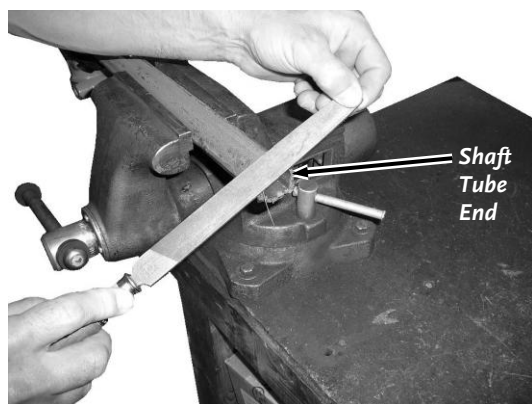

Figure 17
5. File or sand any burrs from the Shaft ends (**Figure 17**).